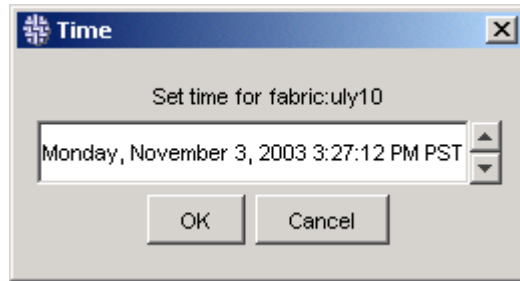

Figure 10: Time Dialog Box
3. Select **Action > Set Time**. The Time dialog box opens (see Figure 10).